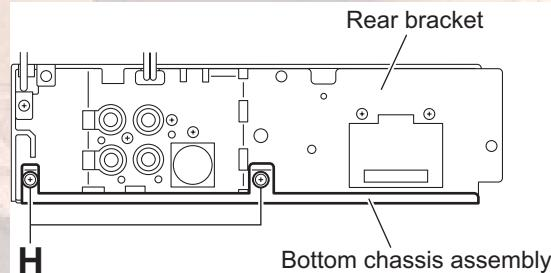

Fig.11
(See Figs.11 and 12)
- From the rear side of the bottom chassis assembly, remove the two screws **H** attaching the rear bracket to the bottom chassis assembly. (See Fig.11)